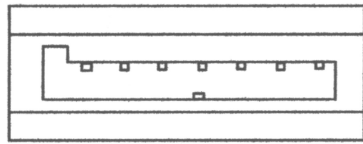

Figure 2A: Original L-shaped SATA connector
- The original Serial ATA connectors have an L-shaped opening, see Figure 2A.
The SeriTek/2EN2 uses the newer eSATA connectors, also known as I-shaped connectors, yet some host adapters require cables that utilize an L-shaped connector. To use the SeriTek/2EN2 with these types of host adapters, the cable required will have a rectangular I-shaped eSATA connector on one end, and one L-shaped SATA connector on the other end as shown below in Figures 2A and 2B.